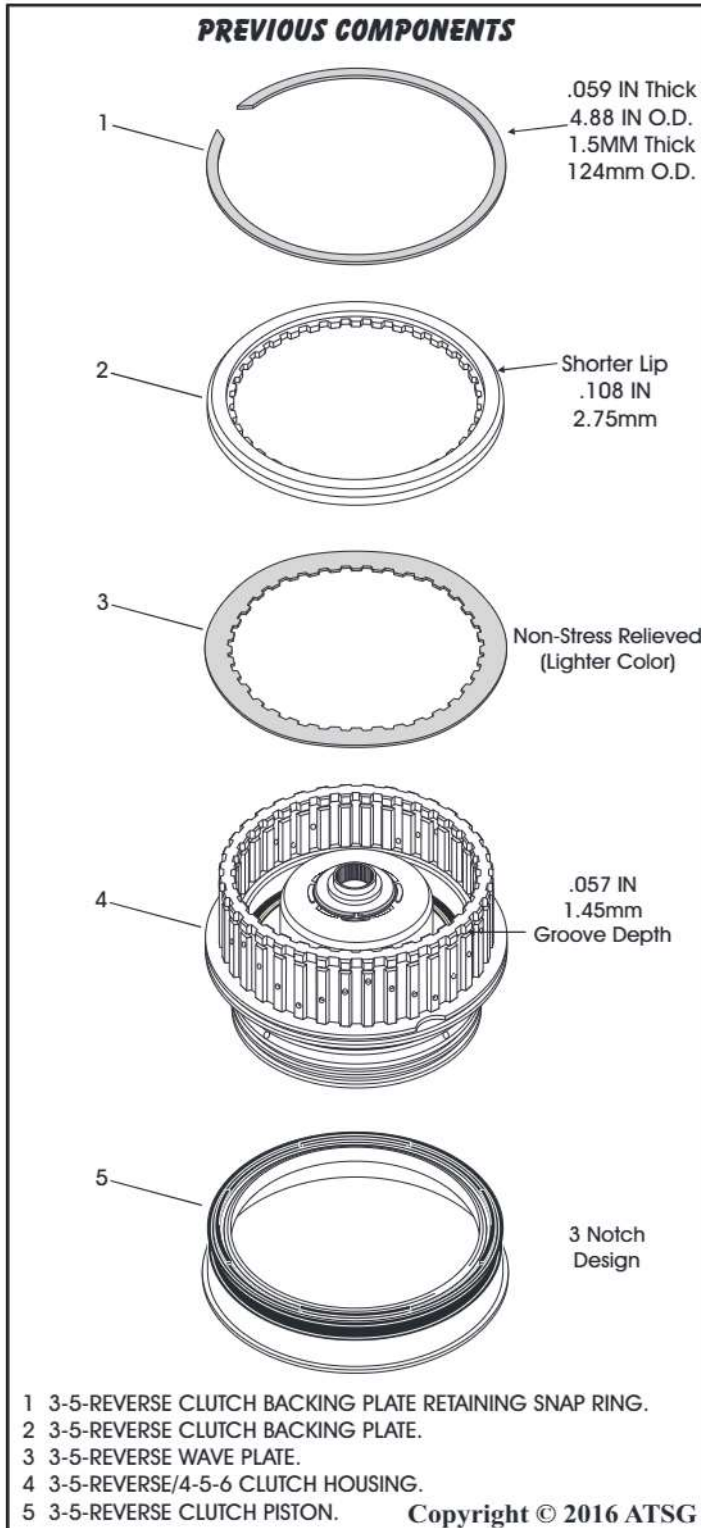
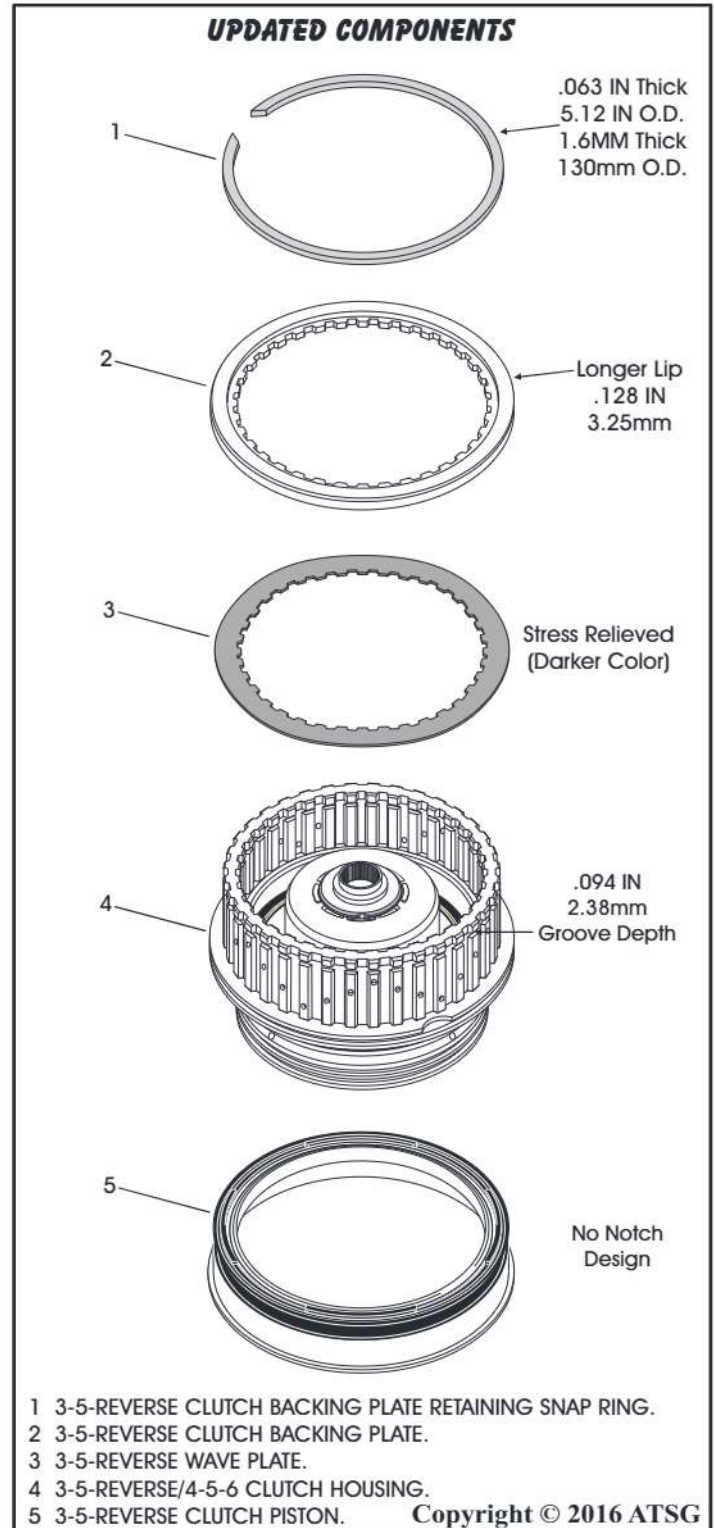

Figure 110
Figure 111
65. It is highly recommended that the components shown in Figure 110 be replaced with the updated components shown in Figure 111.
67. It is recommended that components 3 and 5 seen in Figure 111 be replaced as an assembly to avoid wave plate breakage.
68. Components 1, 2 and 4 seen in Figure 111 are replaced to prevent the snap ring from dislodging.